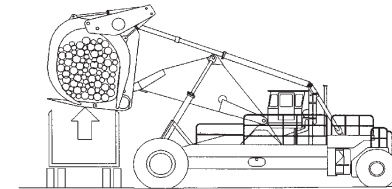

Figure 5-8
5. Hoist the load clear of the truck or trailer and tilt the carriage back slightly to bring the load center closer to the drive wheel axle (See Figure 5-8).